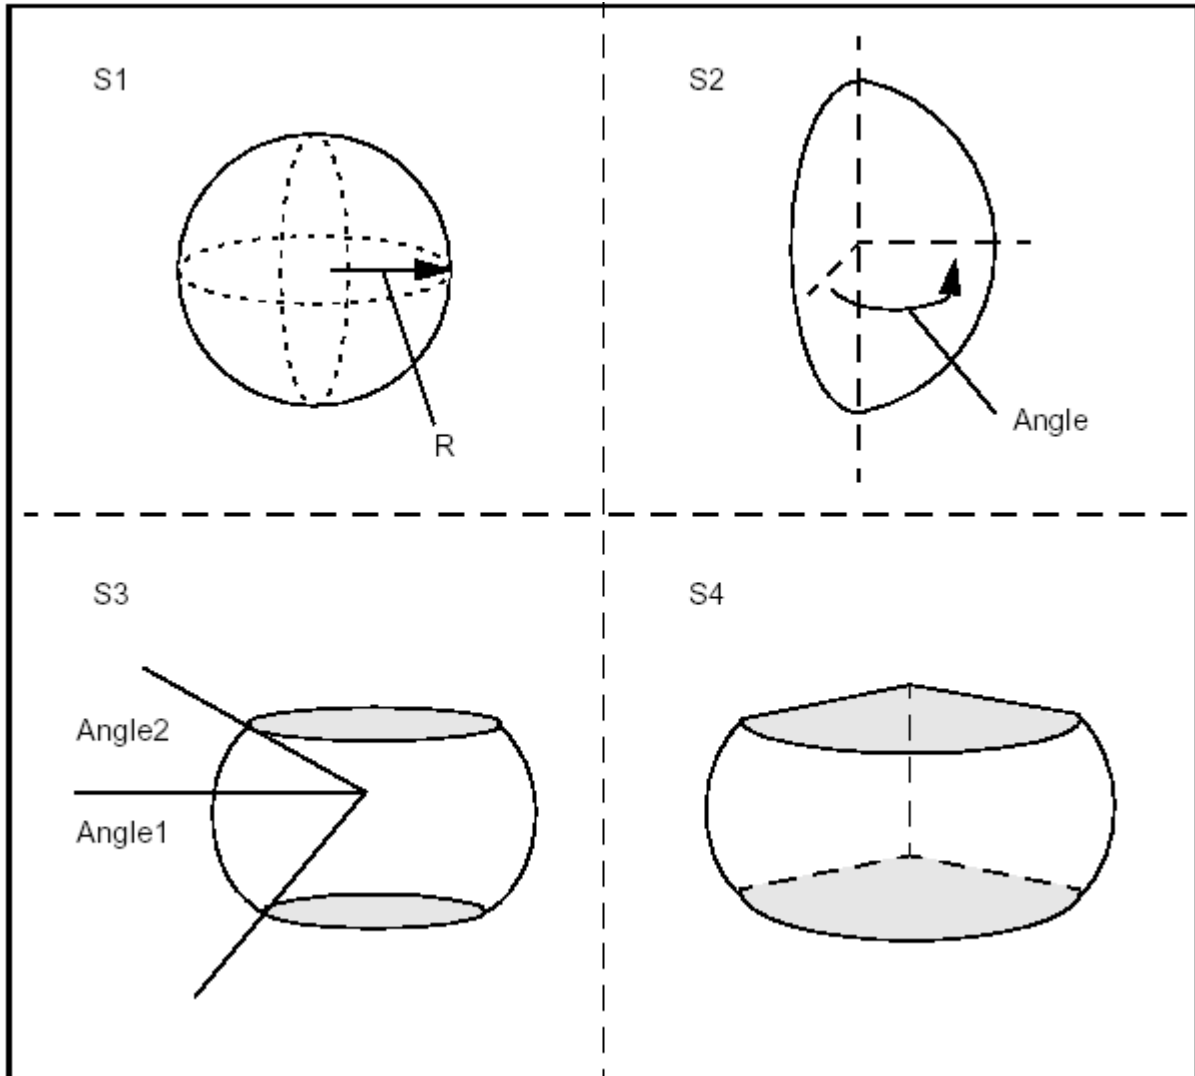

Figure 29. Examples of Spheres
- A radius; builds a full sphere. (see Figure 29.)
$\text{PI}/2 \leq a1 < a2 \leq \text{PI}/2$. (see Figure 29.)
- A radius and three angles; build a portion of a strip of sphere. (see Figure 29.)